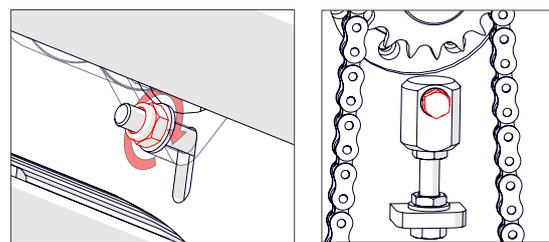

Fig. 15I - Tighten the tensioner block/motor nut.
9. Tighten the nut supporting the tensioner block [2 x 13 mm spanner] (Fig. 15I).